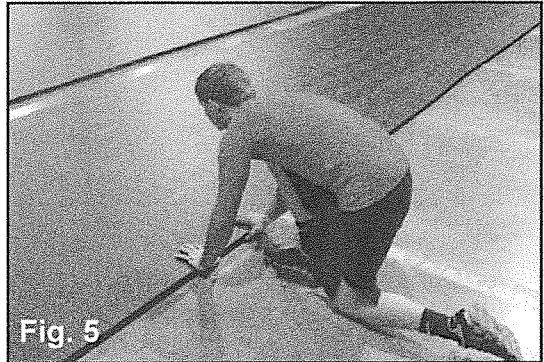

Fig. 5
**5** Always grab the edge of the roll with your hands and push it into place slowly to avoid damaging the edges of the mat (fig. 5).